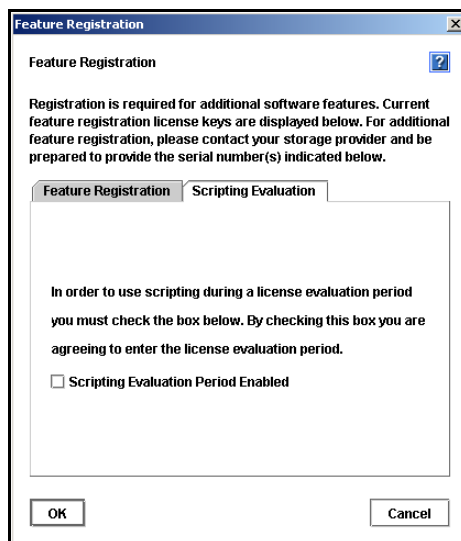

Figure 213. Enabling Scripting Evaluation
4. Select the Scripting Evaluation tab, shown in Figure 213.